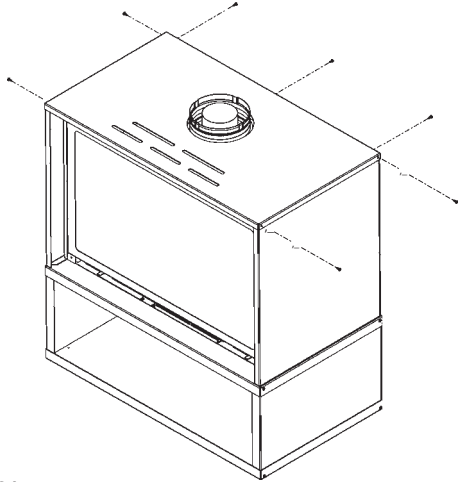

Figure 6.21
21. Install the top of the CK-30 cabinet by setting on top of the cabinet upper sides and cabinet upper back using 7 screws. See Figure 6.21.